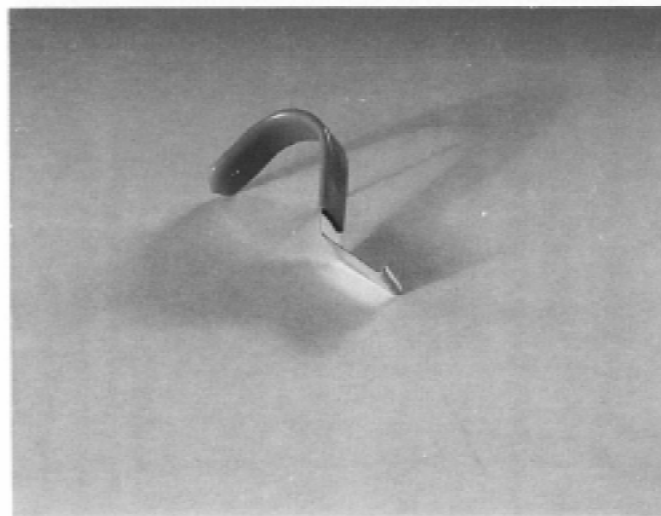

FIG. 4 Zip Tool
3.2.14 *zip tool*—a special hand tool used to separate interlocked siding panels. (See Fig. 4.)